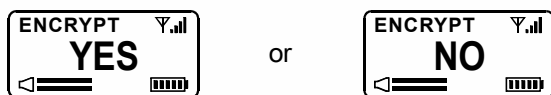

Fig. 15
9. ENCRYPTION Mode, Fig. 15:
- (A) Encryption mode cannot be set via SET▲ or SET▼ button. The encryption key is setup at the transmitter and setting transfer to the bodypack receiver during synchronization (ACT sync).
- (B) ENCRYPT mode: